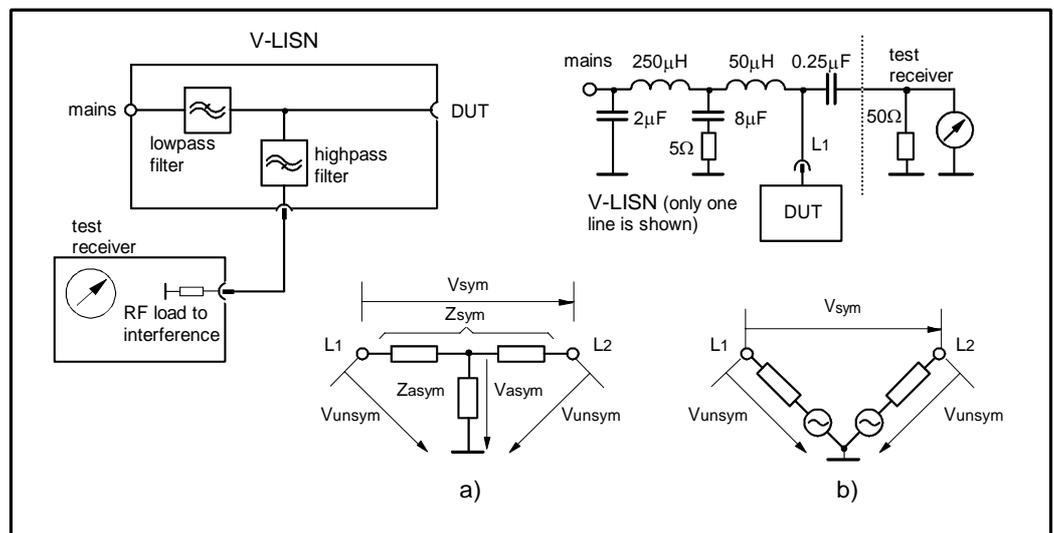

Fig. 7-1 AMN Principle: a) Δ-type or T-type LISN ; b) V-type LISN
7.1.2 Coupling Networks Coupling Networks are electrical interfaces which allow to transfer the quantity to be measured from the lines to the test receiver. Some types of Coupling Networks are: AMN (Artificial Mains Network), named also "LISN" (Line Impedance Stabilization Network), Current Probe and Voltage Probe. Fig. 7-1 shows the AMN principle.